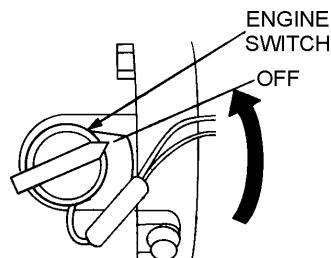

Figure 15. Engine ON/OFF Switch (OFF)
2. After the engine **cools**, turn the engine ON/OFF switch to the "**OFF**" position (Figure 15).